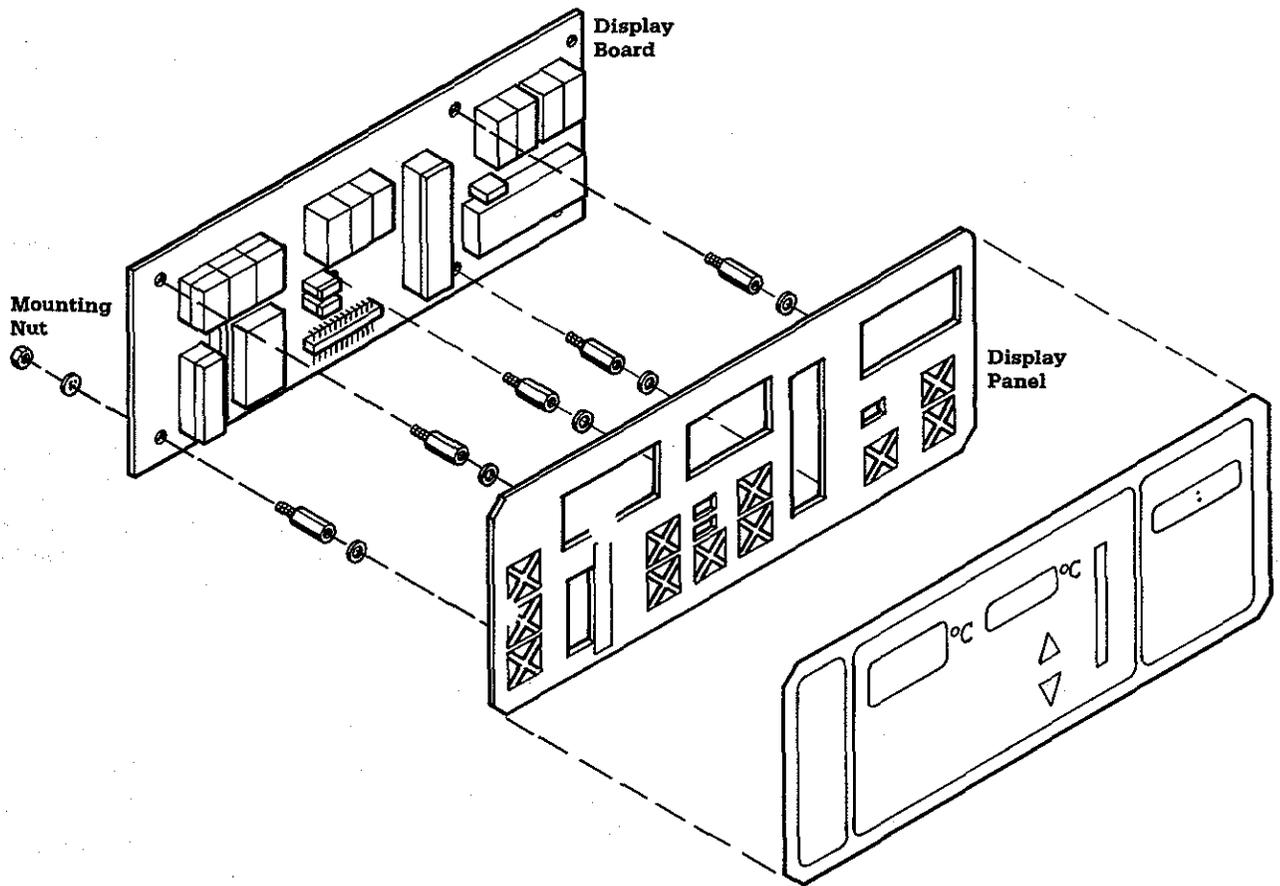

Figure 5-9
6. Remove the 5 mounting nuts with lock washers and the one ground wire from the display board. See Figure 5-9.